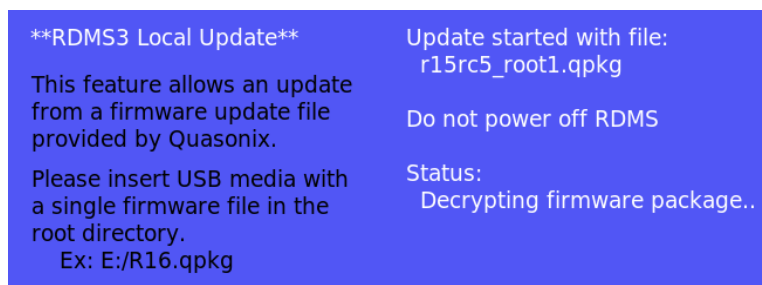

Figure 170: RDMS3 Local Update Screen, Update Status
- During the update, a status displays, as shown in Figure 170.